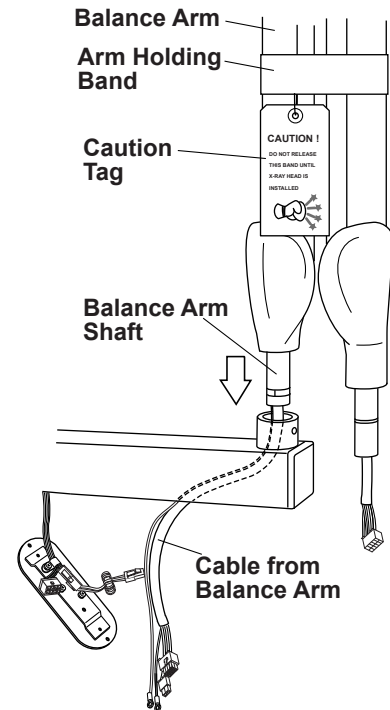

Fig.3-12 Balance Arm Installation
3. Route the cable with 2P and 8P connectors from the balance arm shaft through the horizontal arm. Insert the balance arm into the horizontal arm. The cable should be fed through the bottom cover opening on the bottom of the horizontal arm. (Fig.3-12)
6. Re-attach the bottom cover to the horizontal arm with two screws. (Fig.3-12)